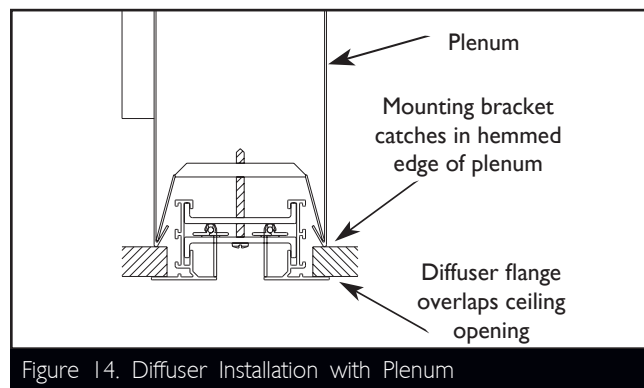

Figure 14. Diffuser Installation with Plenum
- Lift the Diffuser into the Plenum until the Mounting Brackets spring into the hemmed edge. Using a slotted screw driver, tighten the screw until the Diffuser is snug against the ceiling as shown in Figure 14. Before securing the Diffuser, make sure that the Diffuser Flange overlaps the ceiling opening.